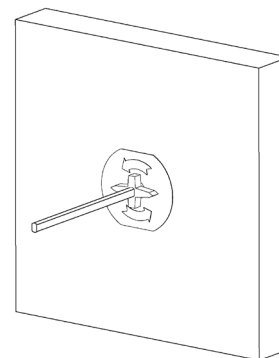

Figure 2 – Twist-lock assembly as installed through sheet insulation
- a. With the connector oriented as shown in Figure 2, insert the connector into the rectangular hole in the twist-lock retainer.
- c. Using the wing for leverage, use the thumb and index finger to twist the connector in the direction indicated by the arrows on the face of the twist-lock retainer (arrows shown in Figure 2). Note that the connectors will rotate 90 degrees until an internal detent in the retainer stops the rotation. Pull the connector perpendicular to the face of the insulation to insure connector is locked into the retainer properly.